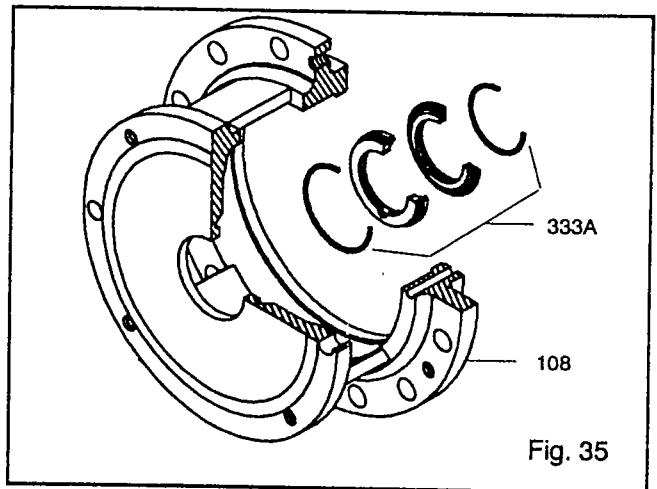

Fig. 35
21. Remove inboard labyrinth oil seal (333A), it is an O-Ring fit into the bearing frame (228A) for STX, frame adapter (108) for MTX, LTX, XLT-X and X17. Remove O-rings (497H), (497J) if necessary (Fig. 35).